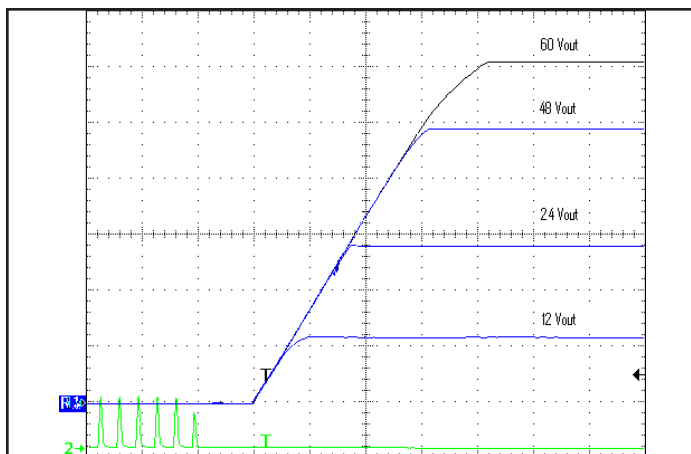

Figure 7: Turn-on transient at 28V input; full load (5ms/div). Top Traces: Vout (10V/div). Bottom Trace: ON/OFF input (5V/div)
**REMOTE ON/OFF:** Only Negative On/Off logic is available in the converter series: logic high at the input turns the converter Off while a logic low turns in On. Timing of this is shown in Figures 7, 8. A high level can be driven to any voltage between 1.5V and 3.3V, or simply left floating as the unit contains an internal 10KΩ pull-up to 3.3V. The pin can be pulled low (to Vsense-) by an optocoupler, an open-source/drain transistor or wired permanently to Vsense-. To provide noise immunity the input has 0.3V of hysteresis.